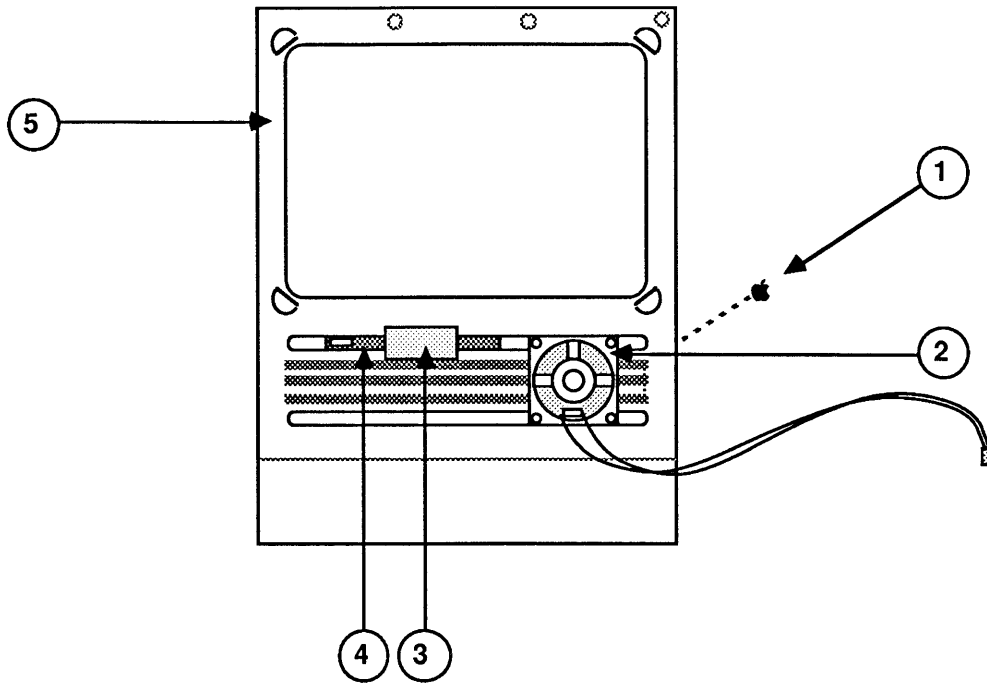

FIGURE 4
- IPL.9 Front Bezel (Figure 4)
□ FRONT BEZEL (Figure 4)